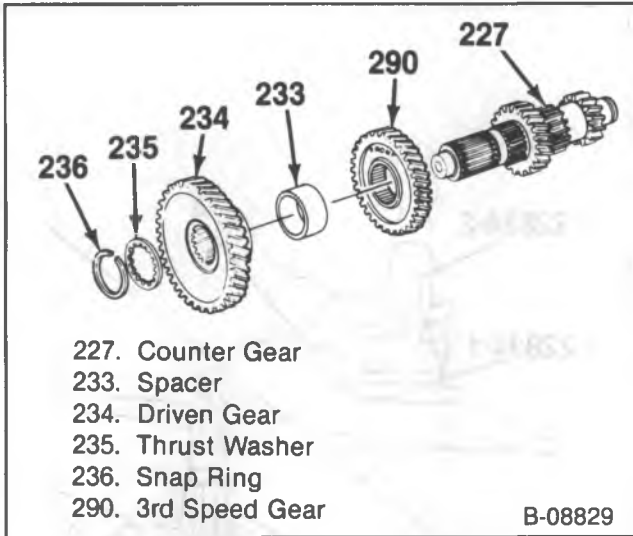
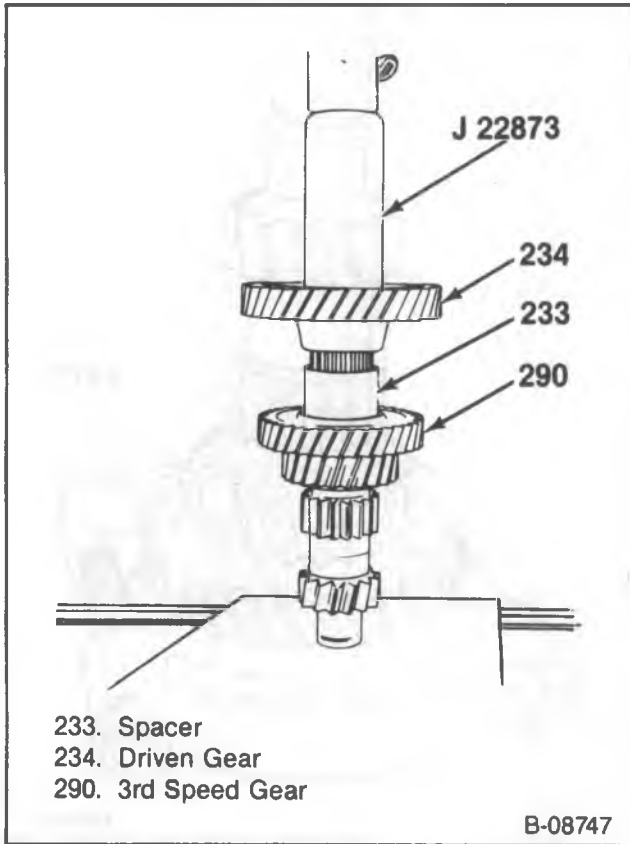
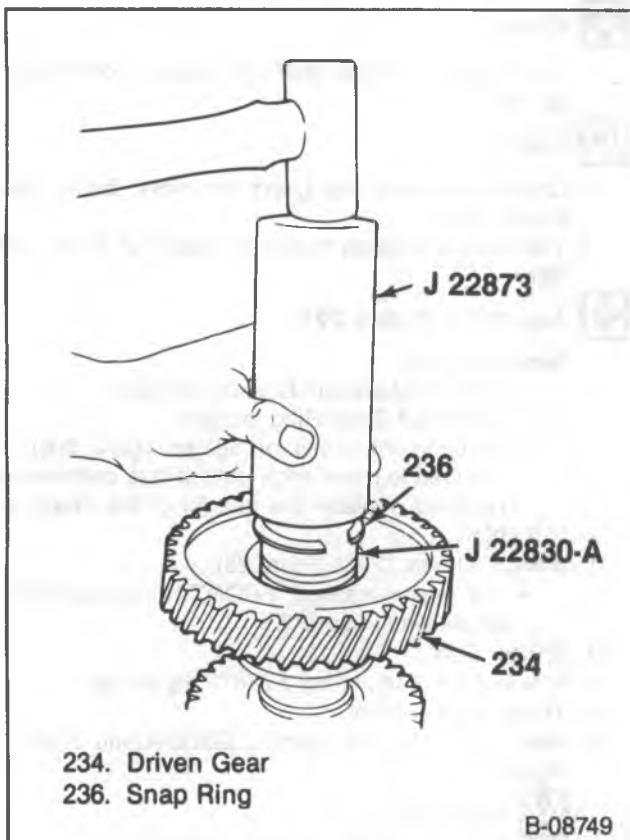

Figure 22—Countergear
Figure 26—Installing the Driven Gear
Figure 27—Installing the Driven Gear Snap Ring
Disassemble (Figure 22)
Assemble (Figure 22)
- The gear is marked "FRONT" in the web area, as shown in figure 22.
2. Spacer (233).
3. Driven gear (234), using J 22873 (figure 26).
4. Thrust washer (235).
5. New snap ring (236), using J 22830-A and J-22873 (figure 27).